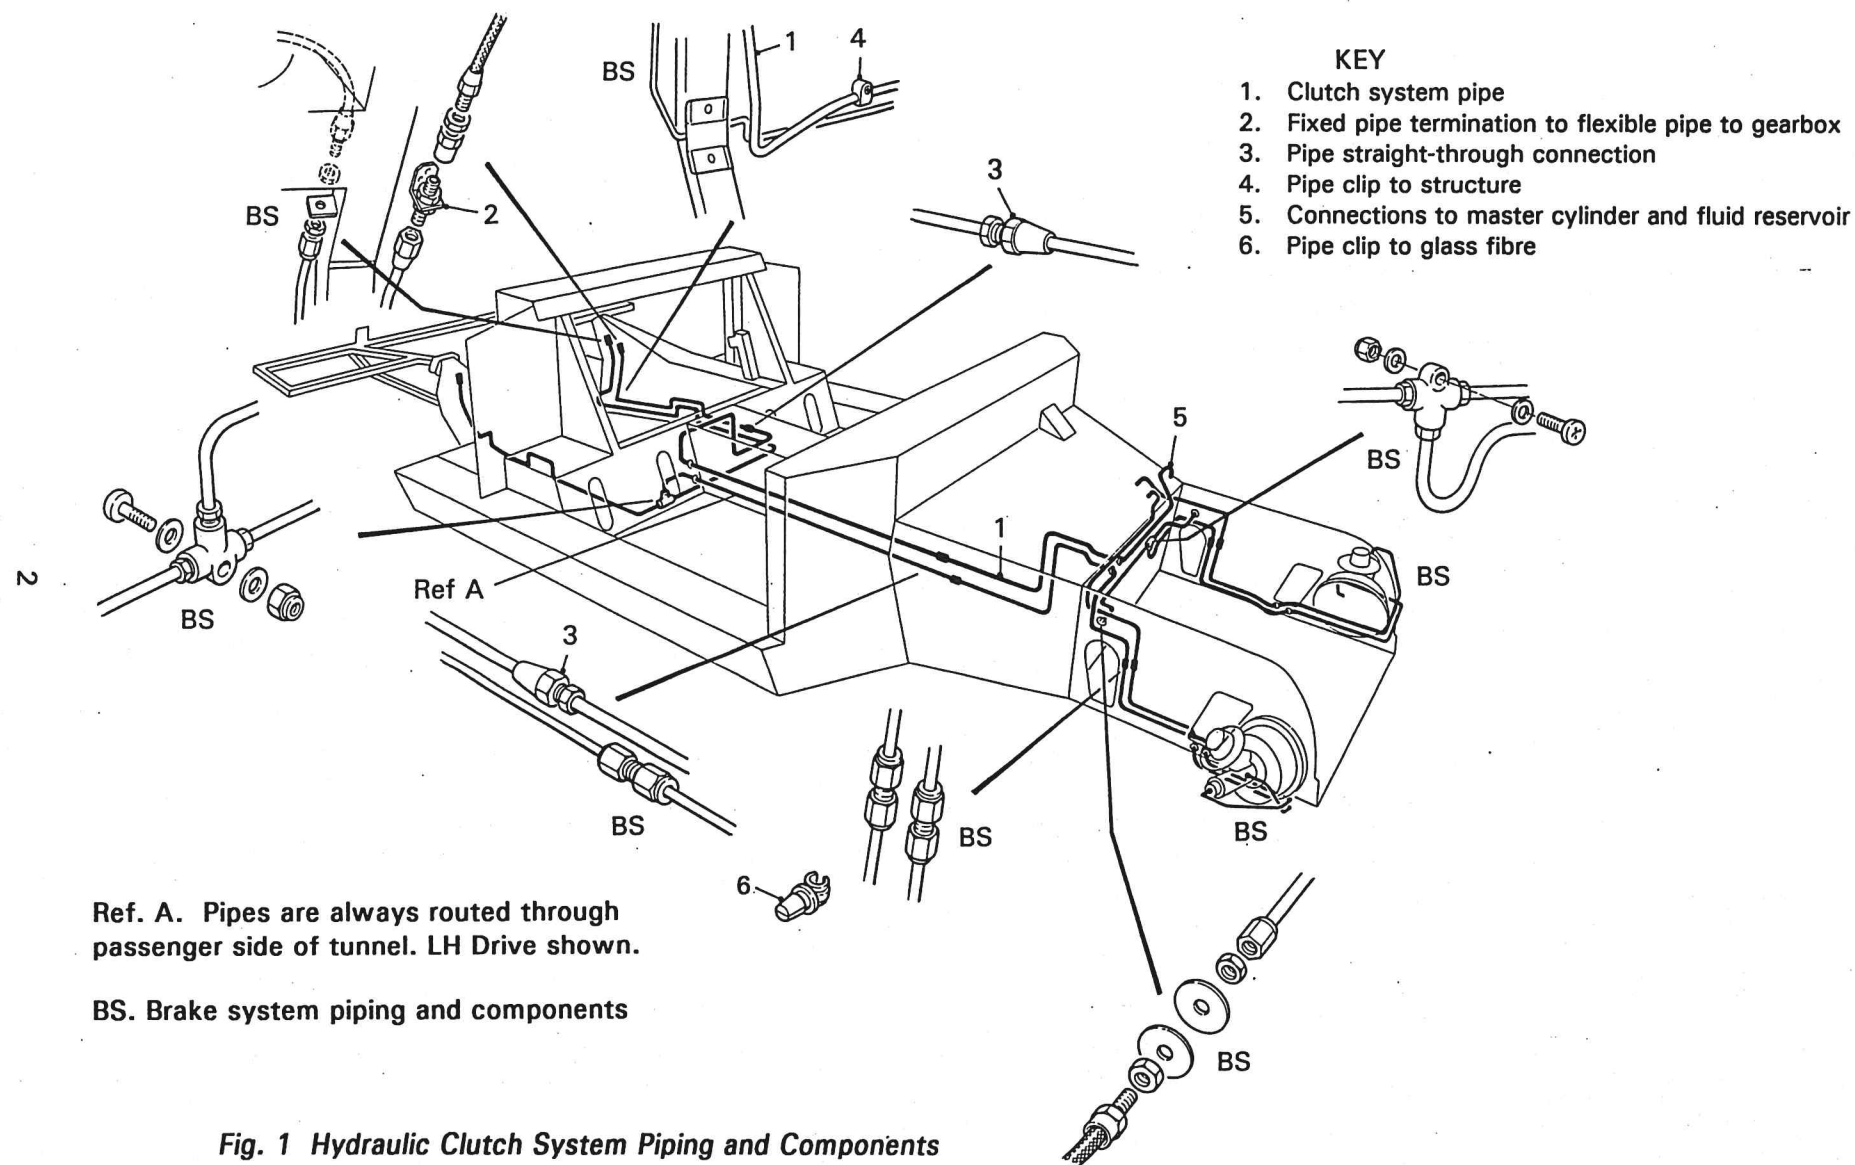

Fig. 1 Hydraulic Clutch System Piping and Components
1. Refer to Fig. 1. Install the clutch system piping (1) in accordance with drawings. Fig.1 indicates the installation routes to, connecting unions (3) and termination (2) to clutch system flexible connection to the gearbox.